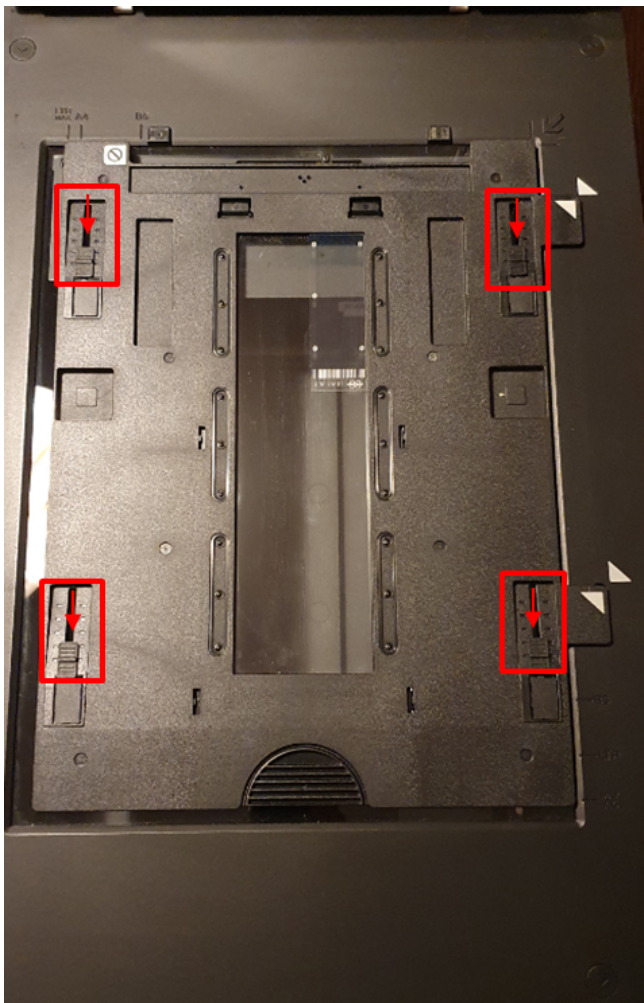

Figure 1-1 EPSON Perfection V850 with sample film adapter on scanning surface
2. Make sure that the sample (medium format) adapter has been placed on the scanning surface of the EPSON Perfection V850 Pro, with the white triangles on the holder and the scanner are aligned (see Figure 1-1).